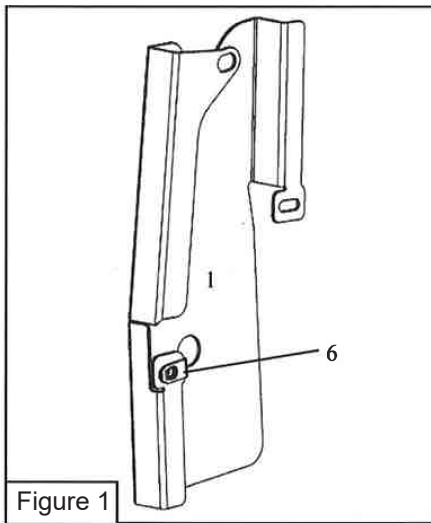

Figure 1
1. Install U-clip (Item 6) on wire cover as shown in Figure 1 (driver side shown).